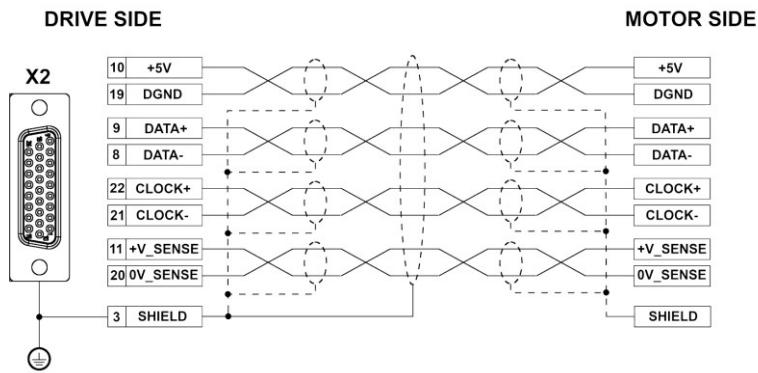

FIG. 30- X2 collegamenti Endat 2.1-2.2-BissB-BissC / X2 Endat 2.1-2.2-BissB-BissC
**FIG. 30** mostra il pinout per connettere un EnDat full digital 2.1 / 2.2.
**FIG. 30** shows an Endat 2.1/2.2 connection (full digital). **Cabling D-SUB male 26 positions connector.**